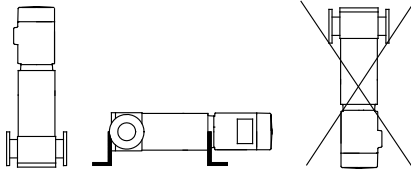

Fig. 2 Positioning the pump
- Always install the pump with the motor above the pump to avoid overheating of the motor bearings. See fig. 2.